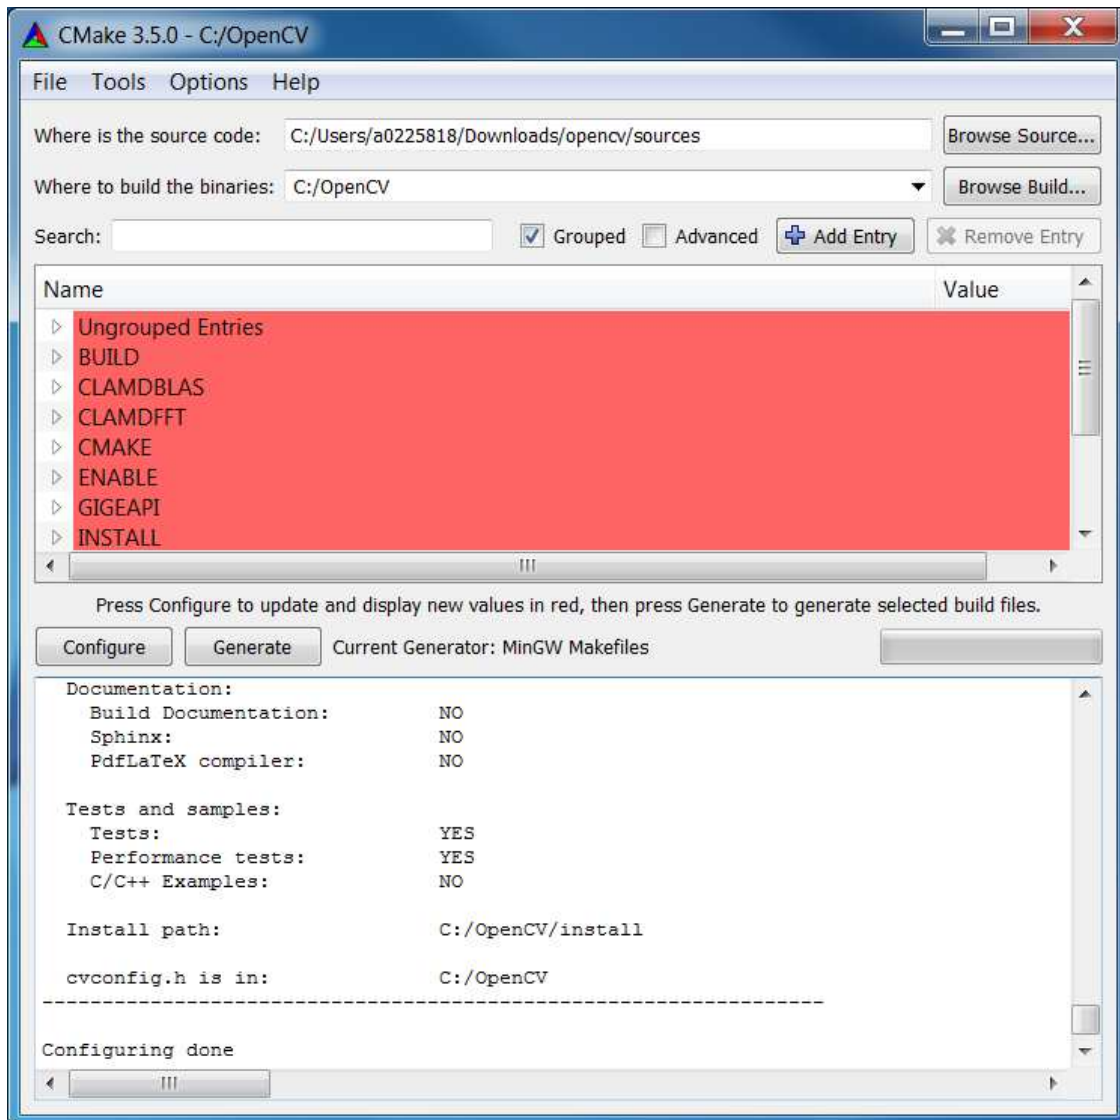

Figure 33. OpenCV Post Configuration
10. Once the configuration is done, the CMake GUI should look like Figure 33.